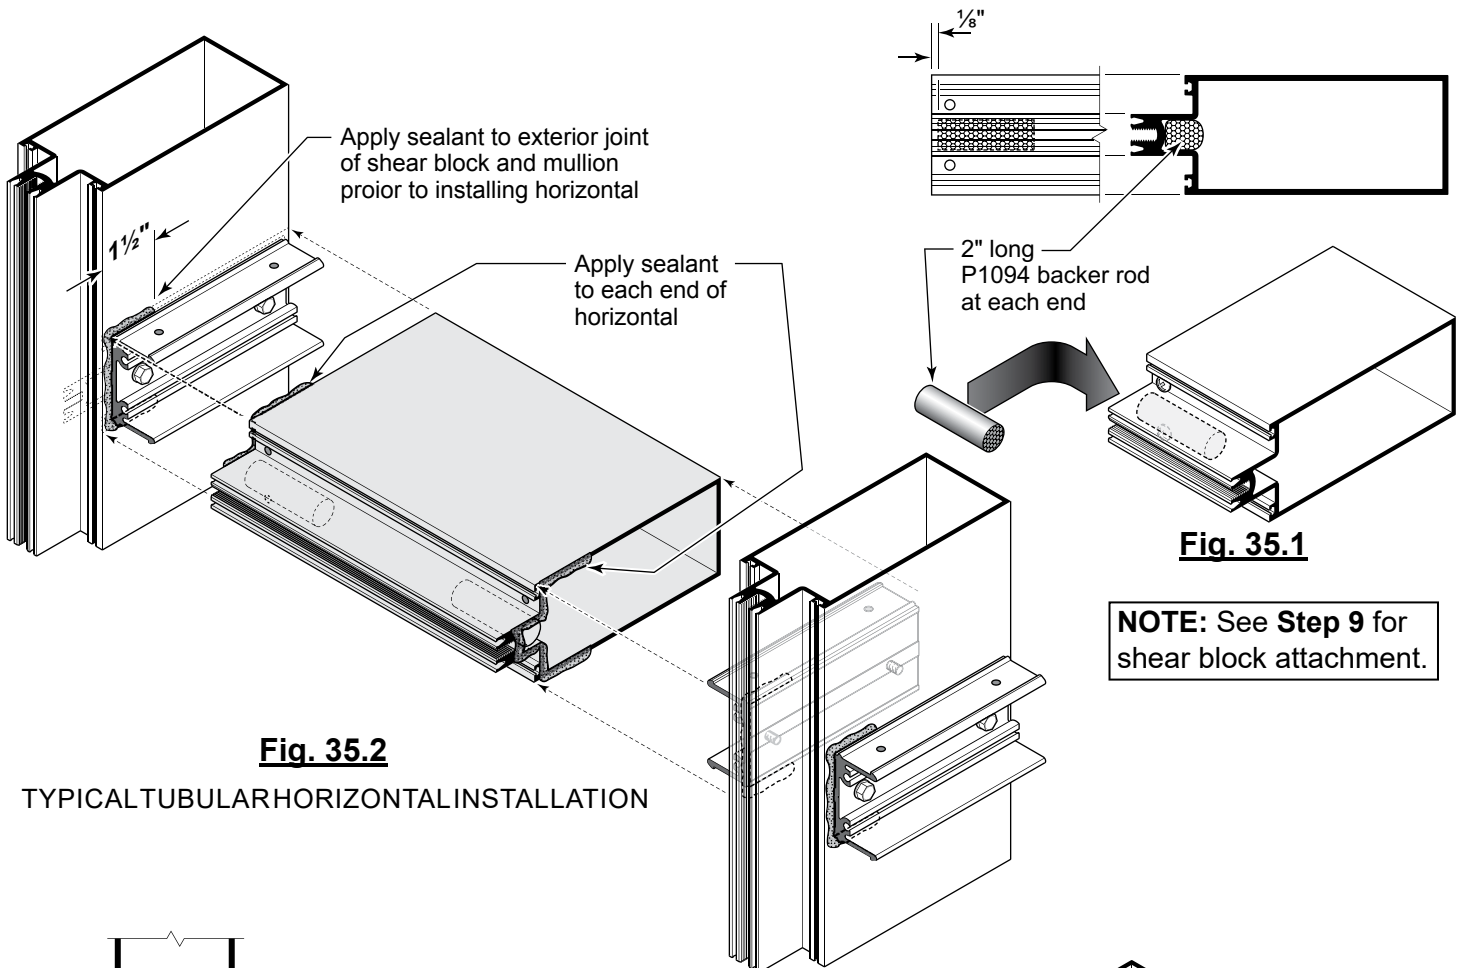

Fig. 35.2
- Seal shear block prior to installing the horizontal member. See **Fig. 35.2**.